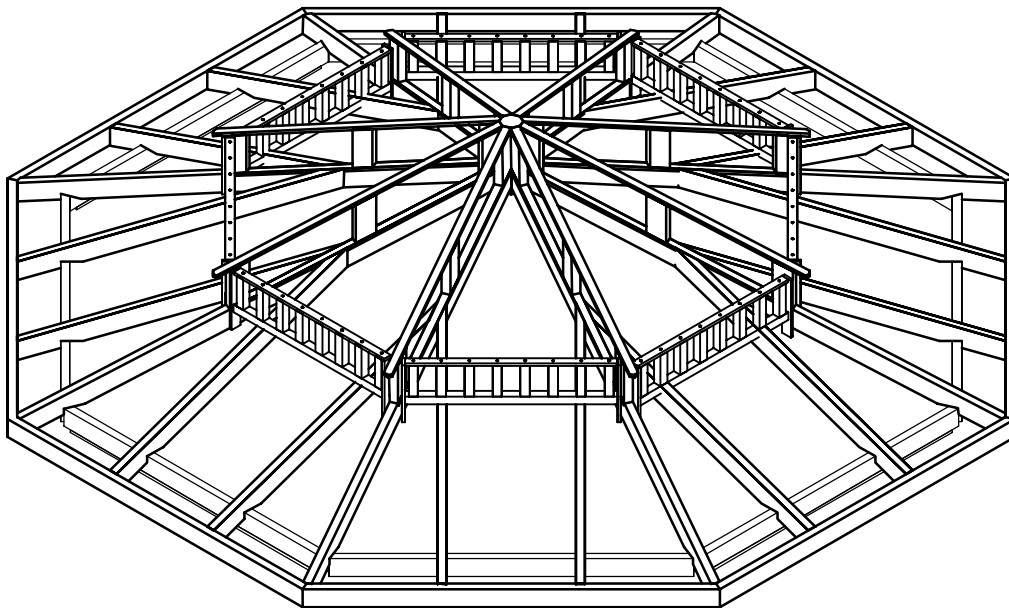

FIGURE S21
- Figure S21 illustrates the completed Two Tier roof assembly.